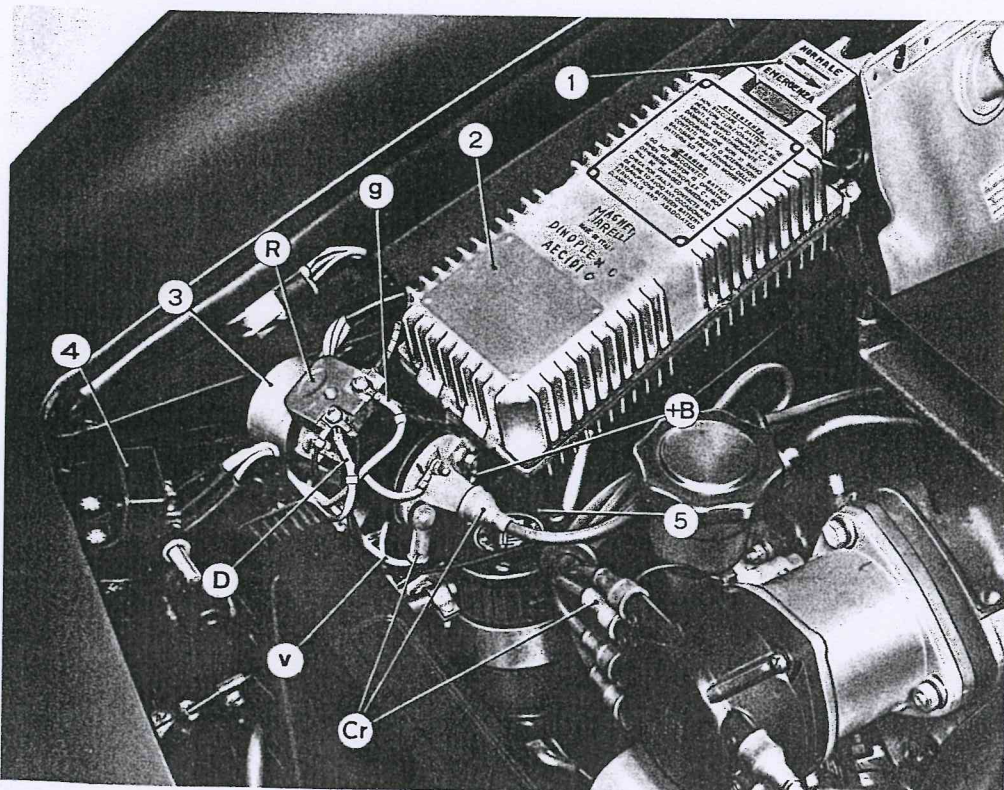

Fig. 11. - « Dinoplex C » unit installed on the DINO Spider.
- 13) Install the horn relay switch in the new location (see fig. 11) and suitably arrange the connection leads.
NOTE - Orient the ignition coil in such a position that terminal « + B » is as far as possible from the side of the « Dinoplex C » casing (see fig. 11).